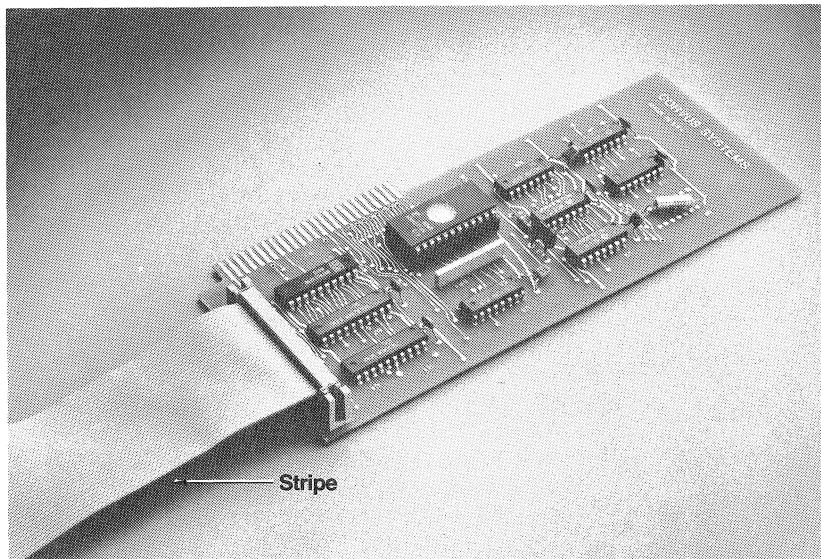

FIGURE 2.10 FLAT CABLE CONNECTED TO INTERFACE CARD
3. Connect the interface cable to the interface card (see figure 2.10). The stripe on the interface cable should be up; facing away from the gold connecting fingers on the bottom of the card.
4. The flat cables supplied with the Multiplexer are then connected to the interface cards for each host computer (refer to figure 2.10).